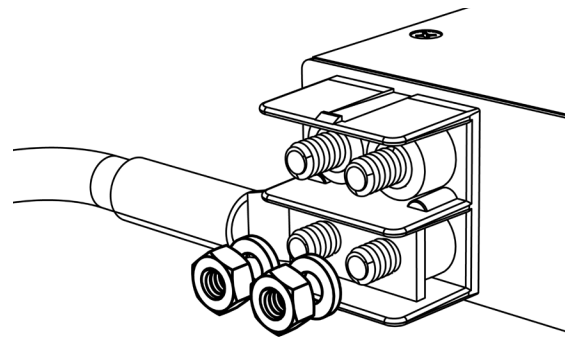

Figure 13. RTN input landing
Step 2. Install the RTN cables/lugs to the RTN input studs located on the rear of the panel (see Figure 13). Ensure all that hardware is tightened.